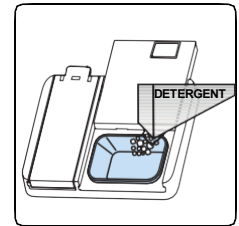

Fig. 2
2. Pour/put the detergent into the dispenser (fig 2).